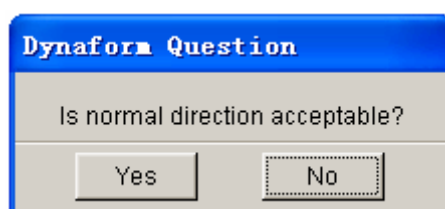

Figure 5.5.3 DYNAFORM Question dialog box
- A eta/DYNAFORM QUESTION dialog box as illustrated in Figure 5.5.3 is displayed.